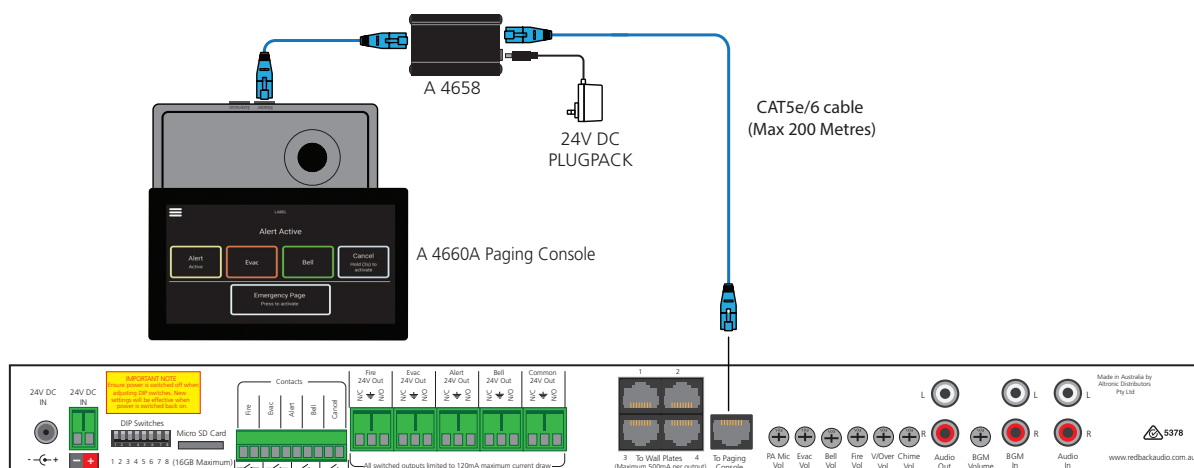

Fig 4.6
*Note: External power injectors (Redback ® A 4658) may be required if power problems are encountered from long cable runs. This is shown connected to the console in the example of figure 4.6.*